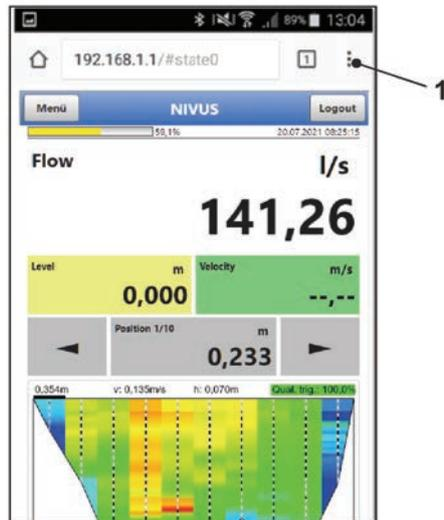
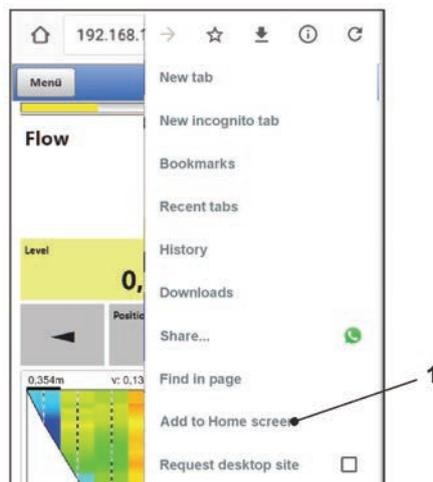

Fig. 26-5 Indication of NivuFlow Stick display in the browser
Fig. 26-6 Add to start screen
After successful connection the display of the NivuFlow Stick (Fig. 26-5) is shown.
8. To set up a link on the "Home screen" (for direct access), tap the icon for more tabs (Fig. 26-5 Pos. 1) and settings and select "Add to start screen" (Fig. 26-6 Pos. 1).